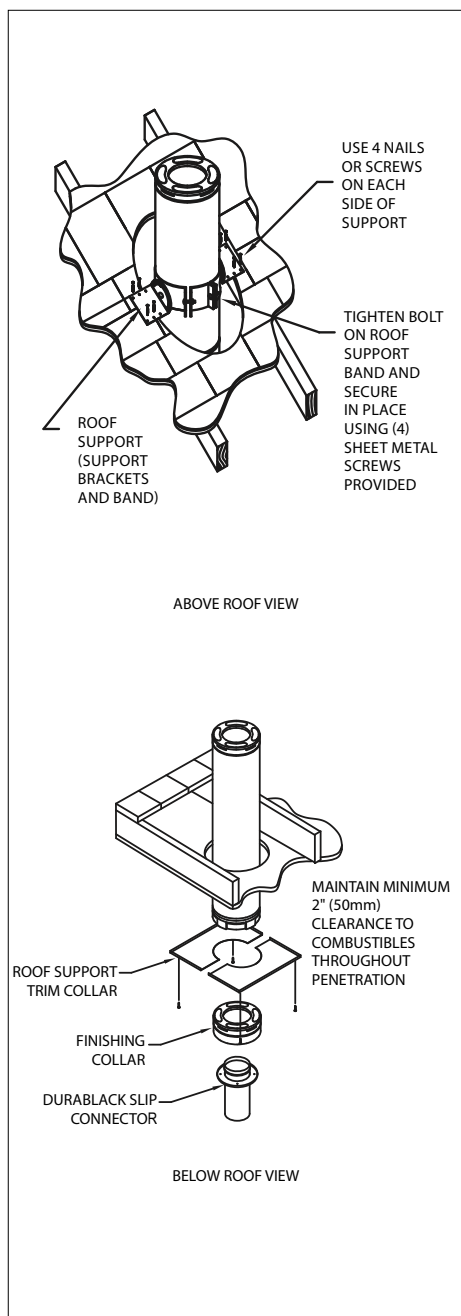

Figure 21
(2) For Roof Support installations: A Roof Support is also used in installations where there is a cathedral ceiling, and a Square Ceiling Support is not desired. The Roof Support allows the DuraPlus HTC chimney to come down into the room below the level of the ceiling (**Fig 21**). The Roof Support can support a maximum of 30 feet (9.1 m) of DuraPlus HTC Chimney total, and maximum of 20 feet (6.1 m) below the support.
2. If the chimney is 7" or 8" in diameter, add in the corresponding band section so the Roof Support Band wraps completely around the chimney (**Fig 21**). If the chimney is 6" diameter, no additional band section is needed. Bolt on the Roof Support Brackets to the Roof Support Band using the supplied hardware. Attach the Roof Support Brackets to roof using (4) 8 penny nails or (4) #8, 1-1/2" screws per side (**Fig 21**).
3. Determine how much DuraPlus HTC Chimney will be extending into the room (minimum of 3" (75 mm) below the finished ceiling). Be sure to maintain the proper clearance to combustibles (walls and ceilings) for the connector pipe. Once you have identified the proper height for your installation, attach the of the Roof Support Band to the Chimney Section by tightening the clamping Bolt, and secure it by using (4) supplied sheet metal screws through the Band and into the outer wall of the chimney.
4. Attach desired length of Chimney Sections above and below the roof level (max. of 30-ft. (9.1 m) total, max. of 20-ft. (6.1 m) below the support). **Important: for chimney sections below the roof support, you must use at least (3) sheet metal screws per joint.** To transition to the connector pipe, attach the Finishing Collar by twist locking it to the bottom section of DuraPlus HTC Chimney.
5. Slide the two halves of the Trim Collar over the DuraPlus HTC Chimney and attach the Trim Collar to the ceiling using (6) 1-1/4" screws provided (**Fig 21**).